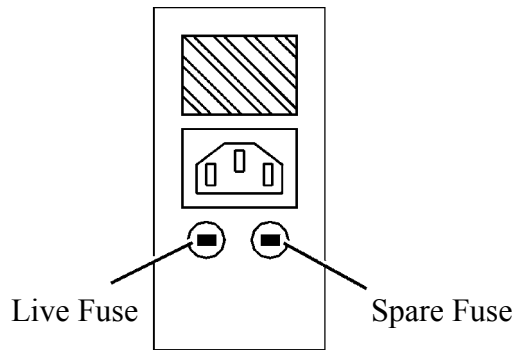

Figure 16 - Fused Electrical Mains Socket
2. Press the Belt Tensioner (Figure 16) to slacken the belt, and remove the belt from the pulley and Slider Bracket. Visually check that the belt is in good condition.